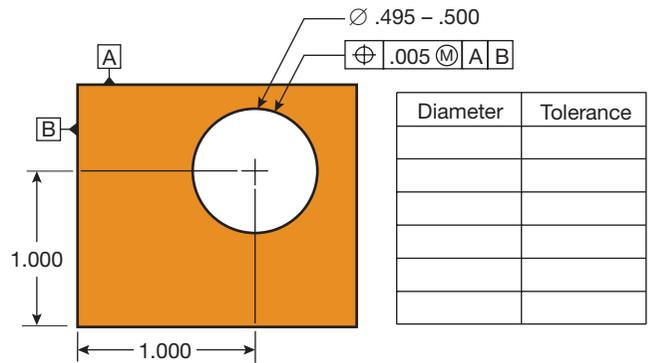

Figure A-104 Drawing for question 1.
1. Explain the location tolerance and complete the tolerance table in Figure A-104.